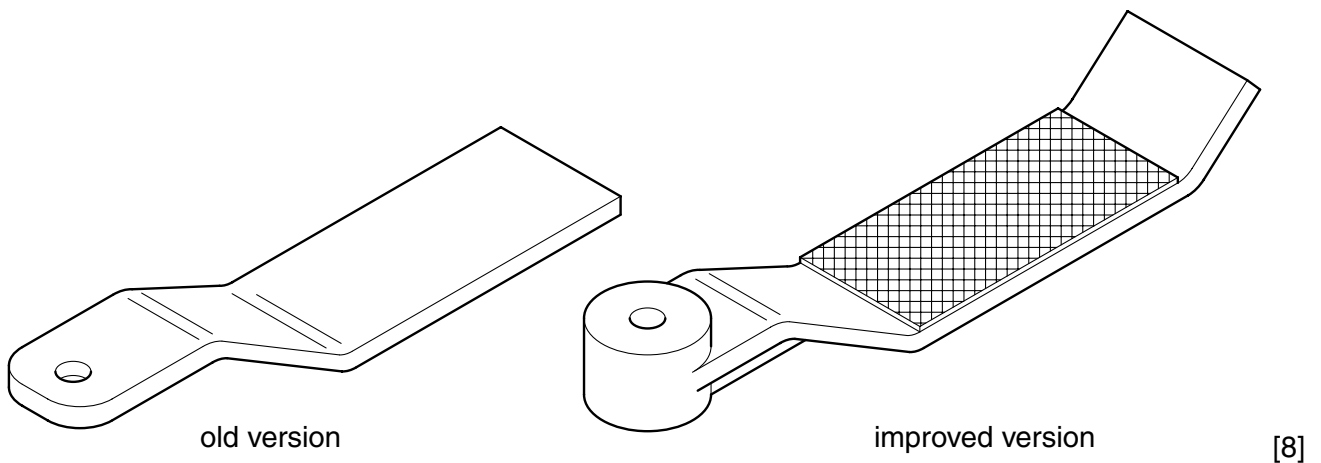

Fig. 12
- (a) A number of improvements to the basic design are being considered. Identify the **four** major improvements to the footboard shown in Fig. 12 and suggest the reasons for each change.